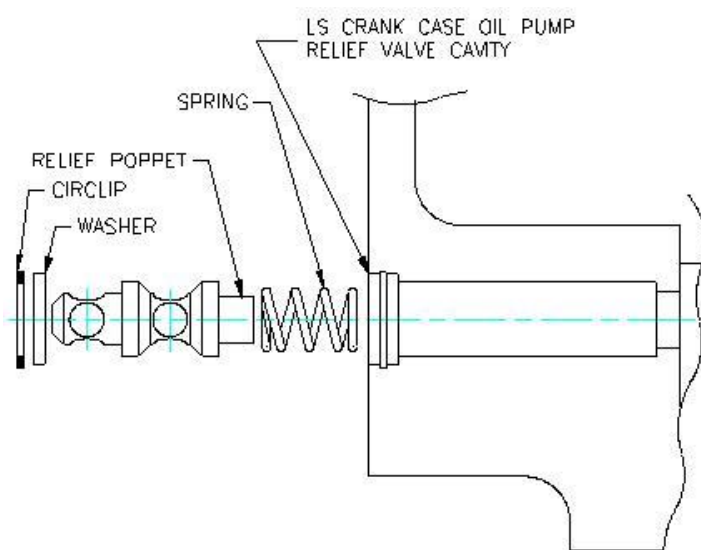

Figure 81 – Oil Pressure Relief Valve
- The oil pressure relief valve assembly is located underneath the oil filter / oil cooler adaptor on the side of the crankcase as shown in Figure 81.